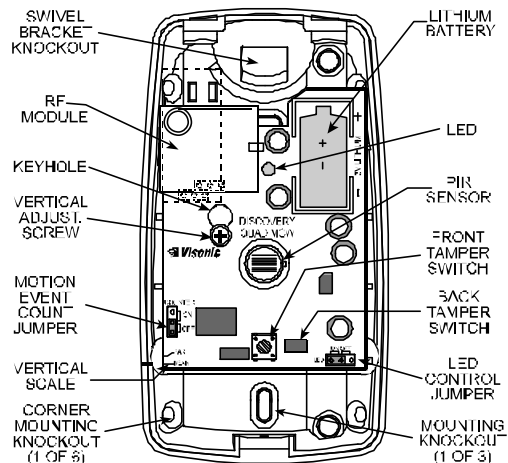

Figure 4. Inside View
2. Insert the battery into the battery clip - observe polarity (see Figure 4).
2nd. Loosen the vertical adjustment screw, slide the PCB down and remove it via the "keyhole" (see Figure 4).
The location of the motion event jumper is shown in Figure 4. Refer to Figure 9 below and mount the jumper as desired.